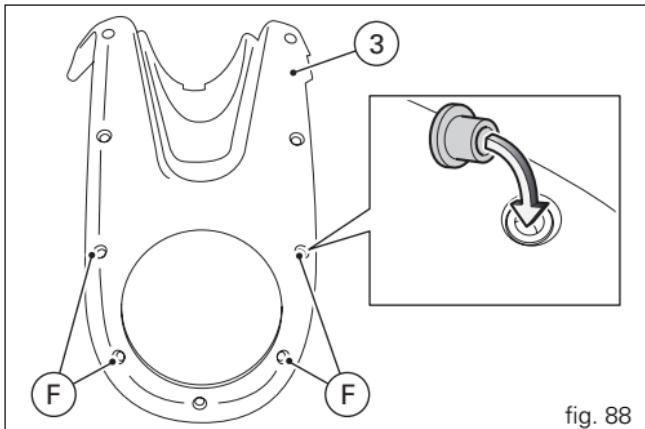

fig. 88
Check that the four bushes (F, fig. 88) are installed on the front tank cover (3) with the larger diameter side facing upwards.